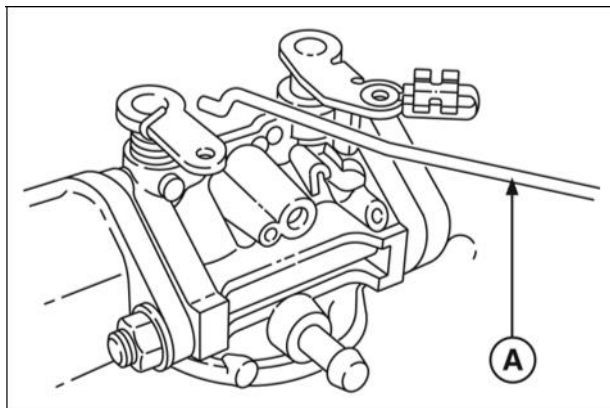

Figure 3
NOTE: Early style choke links were manufactured with a "Z" bend (Figure 3). To remove choke link the governor control bracket must be removed. Proceed to Steps 5 and 6.
6. Remove choke link (A, Figure 3) from choke lever.